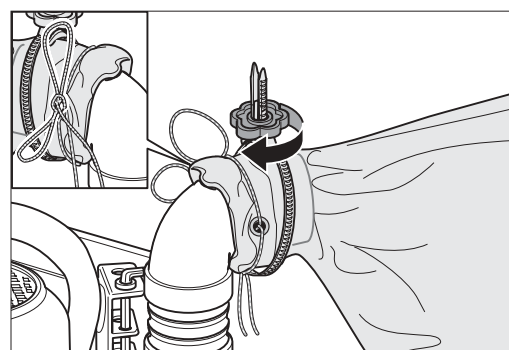

Fig. 4: Tighten the MultiClip firmly by hand and tie up the dust bag.
- 5 Tighten the MultiClip fastener firmly by hand and make sure that the dust bag is not folded underneath the MultiClip fastener. In addition, then use the string to tie up the dust bag (Fig. 4).